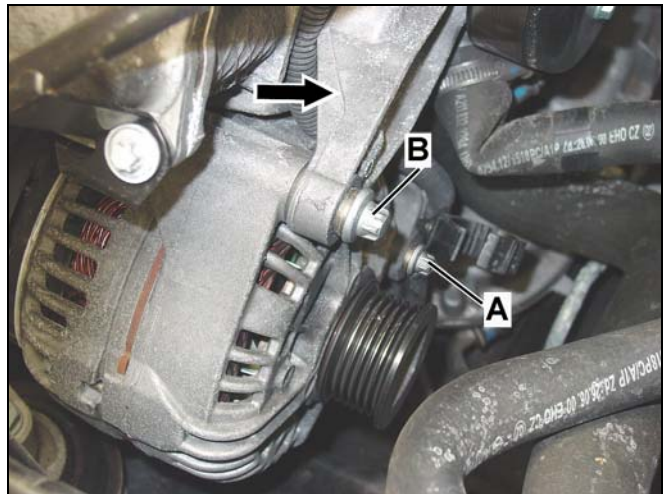

Figure 3
- Remove upper alternator mounting bolt (B, Figure 3).
- Loosen lower alternator mounting bolt (A, Figure 3) from mounting bracket (arrow).
- Remove lower alternator bolt (A, Figure 3) from mounting bracket.